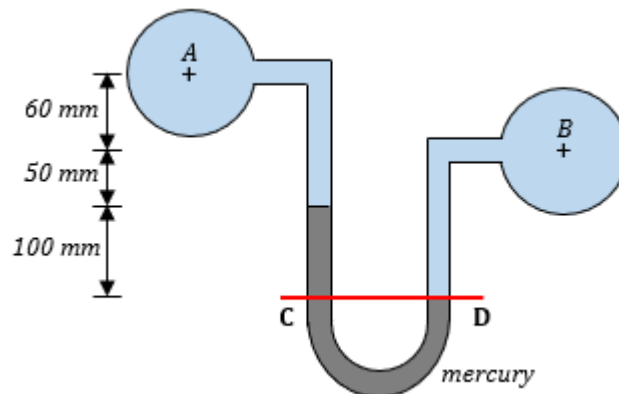

Figure 7
13. A differential connected at the two pipe A and B at the same level in a pipe containing an oil of specific gravity 0.8, shows a difference in mercury levels as 100 mm. Based on figure 7, determine the difference in pressure at the two pipes.